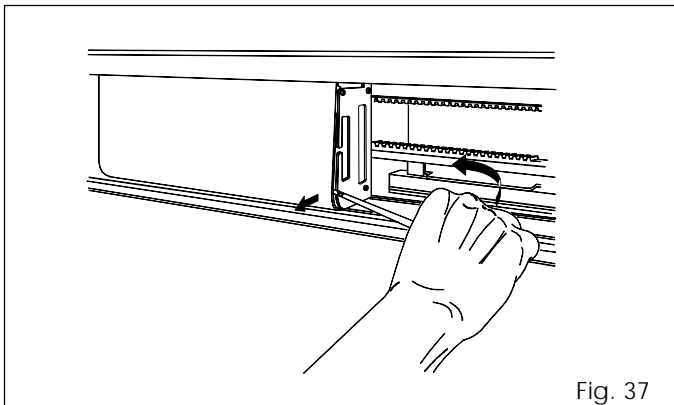

Fig. 37
- To remove the protective cover of the SDM control unit, delicately obtain leverage with a screwdriver as shown in fig. 37.